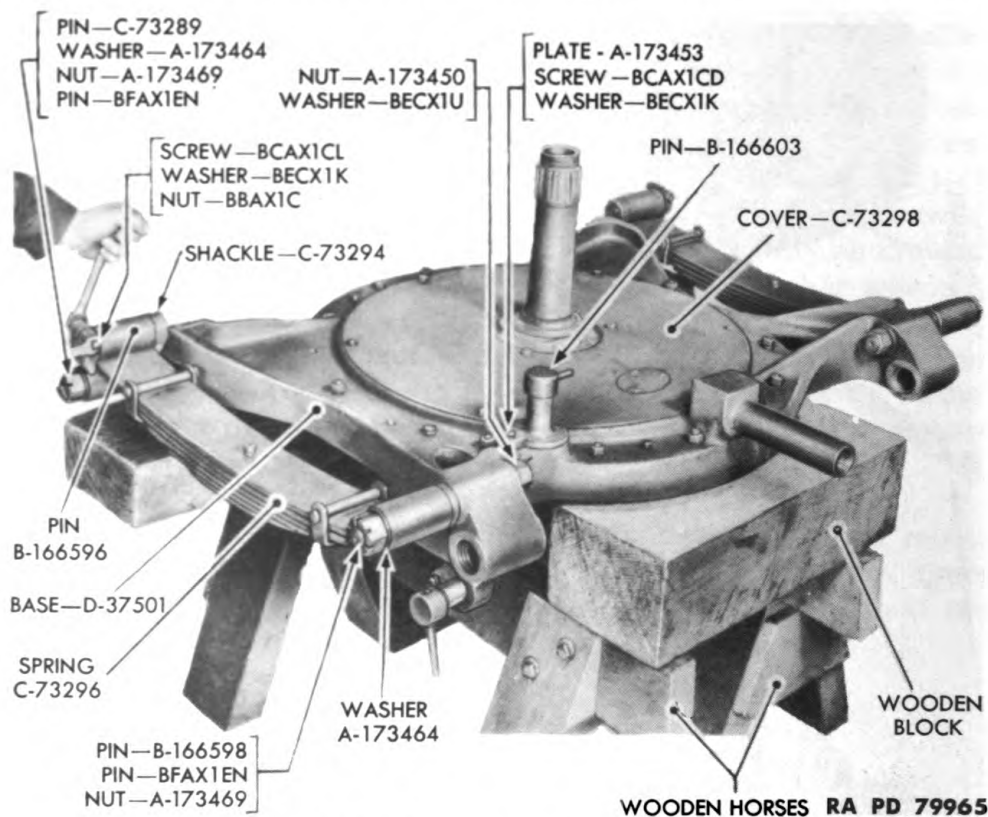

Figure 325—Removing Limber Springs
i. Remove Limber Springs (figs. 325 and 336).
(1) Remove nut BBAX1C, lock washer BECX1K, and cap screw BCAX1CL, that hold limber spring shackle pin B166596 in spring shackle C73294 (figs. 325 and 336). Drive limber spring shackle pin out of shackle and limber spring C73296.
(2) Remove cotter pin BFAX1EN that holds nut A173469 on spring attachment pin B166598, then remove slotted nut and lift off washer A173464.
(3) Pull limber spring off limber base D37501 and remove four oil seals A174270 from eye end of spring. (There are two oil seals at each end of limber spring.) Press bushings out of each eye end of spring, if necessary to replace with new bushings.
(4) Repeat procedure as described in steps (1), (2), and (3) above to remove opposite limber spring.
j. Remove Spring Shackle from Limber Base (fig. 325).
(1) Remove cotter pin BFAX1EN that holds nut A173469 on
(2) Lift spring shackle C73294 off spring shackle pin and remove two oil seals A174270. Press shackle bushing A174247 from shackle, if worn.
(3) Repeat procedure as described in steps (1) and (2) above to remove opposite spring shackle.
k. Remove Spring Attachment and Spring Shackle Pins (fig. 325).
(1) Remove nut A173450 and lock washer BECX1U that hold spring attachment pin B166598 to limber base. Drive spring attachment pin out of limber D37501.
(2) Remove nut A173450 and lock washer BECX1U that hold spring shackle pin C73289 to limber base. Drive spring shackle pin out of limber base.
(3) Repeat procedure as described in steps (1) and (2) above to remove opposite spring attachment and spring shackle pins.
HEAVY CARRIAGE LIMBER M2**l. Remove Trail Base Locking Pin (figs. 325 and 333).**